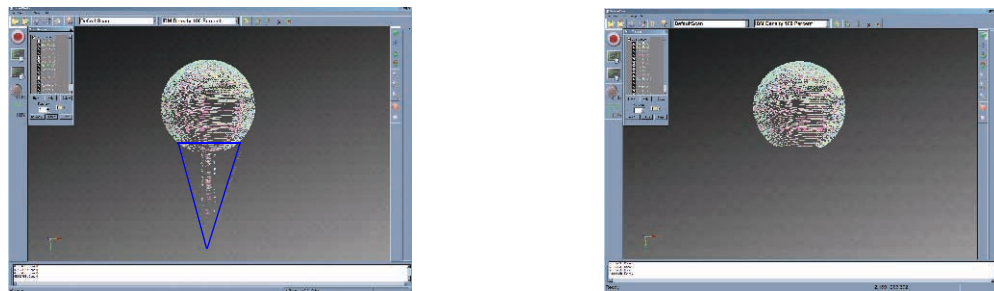

Figure 3-9 Calibration Sphere Stem Trim - Scan Pass Calibration
6. When you are finished collecting data, use the **Outside** tool in ScanWorks to trim the stem out of the data, as shown in Figure 3-9.